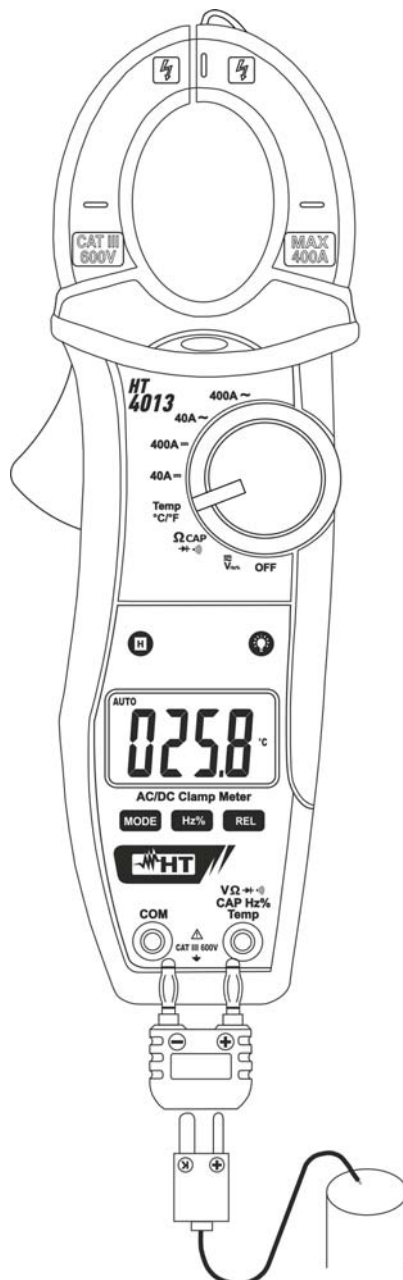

Fig. 9: Use of the clamp for temperature measurement with type K probe
3. Insert the K wire probe provided into input terminal **VΩ→+~CAPHz%Temp** and **COM** by means of the relevant adapter, respecting the polarity indicated in Fig. 9. The display shows the value of temperature.